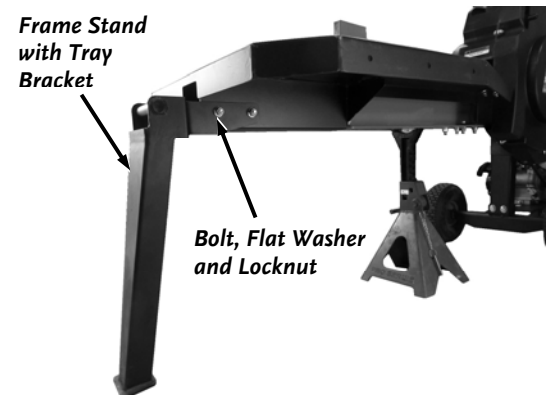

Figure 16
6. Install the Frame Stand onto the Tray with four 3/8-16 x 4.5" Bolts, 3/8" Flat Washers and Locknuts (**Figure 16**).